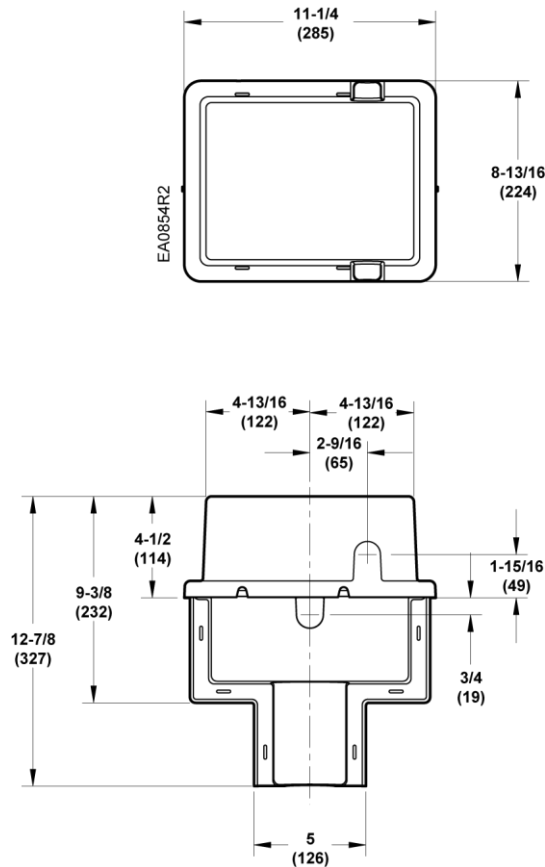

Figure 14 Dimensions of 599-10071 Weather Shield in Inches (Millimeters).
- See *Dimensions* in Figure 14 and Figure 15.